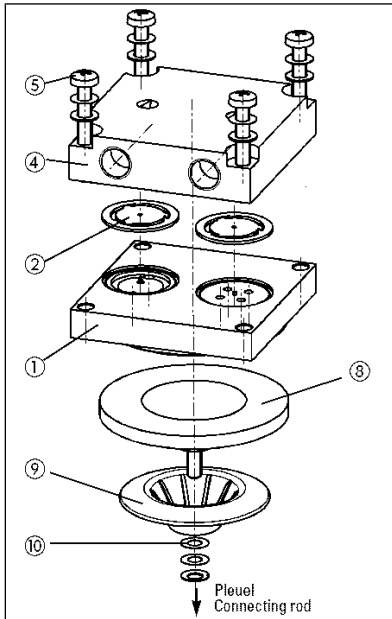

Fig.8 Replacing the structured diaphragm
4. Loosen the four screws ( Fig. 8/5).
5. Remove the head plate ( Fig. 8/4) and the intermediate plate ( Fig. 8/1).